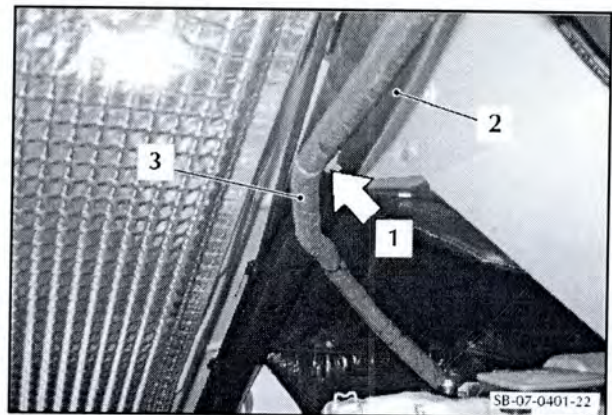

Figure 49
98. Use the transmission lift to lift the transaxle sufficiently to install the clip (1) that attaches the electrical harness (2) to the subframe (3) (refer to Figure 49).